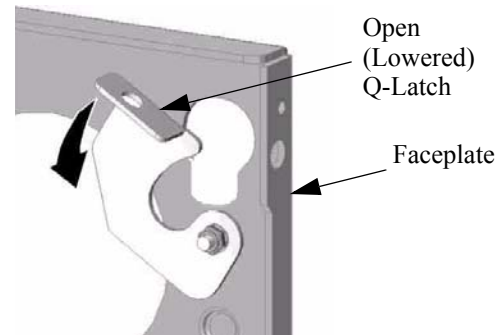

FIGURE 10. OPEN Q-LATCH
2. Open the Q-latch (see Figure 10).